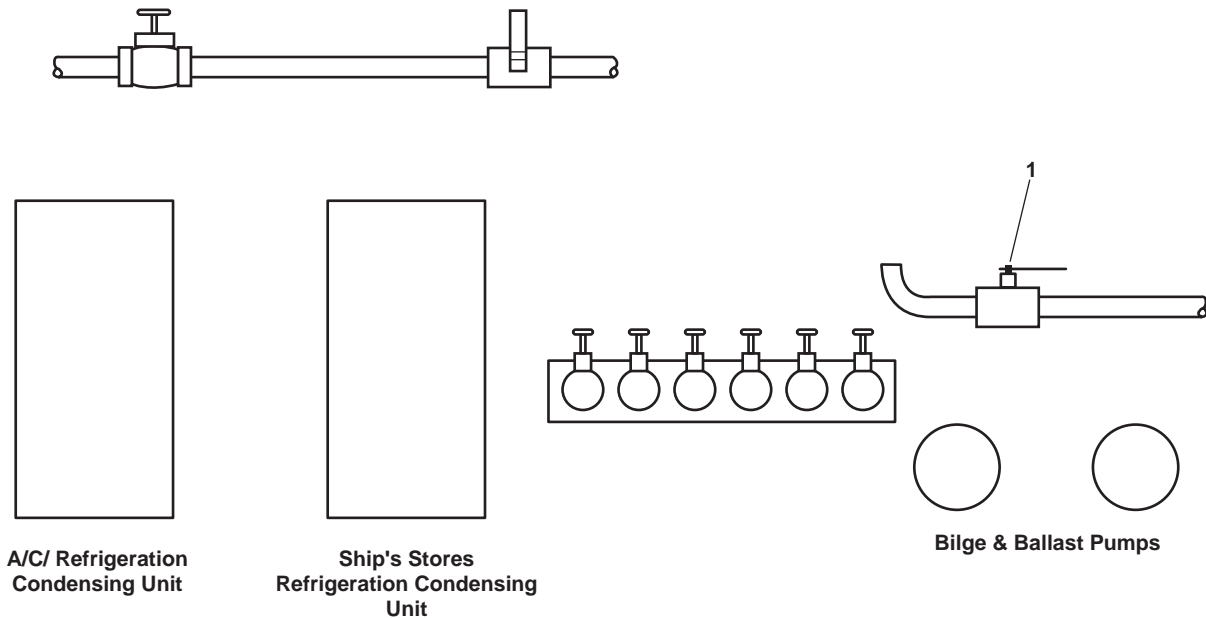

Figure 17. Potable Water Valves on AMS 2 Aft Bulkhead
- a. RO-V-9 (figure 17, item 1), fresh water flush pump supply